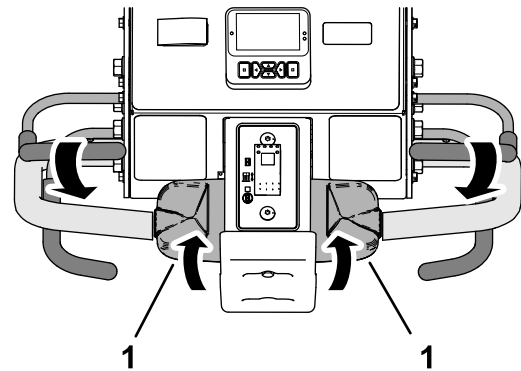

Figure 90
3. While holding the operator-presence bail to the handlebar, slowly rotate the top of the traction control rearward (Figure 90).